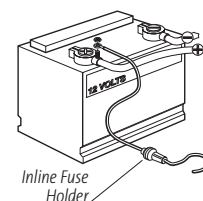

Figure 4
- 1b. If you need to wire the control head directly to a battery, obtain and install an inline fuse holder and a 1 to 3 amp fuse (not included) for the protection of the unit (Figure 4). Humminbird is not responsible for over-voltage or over-current failures.